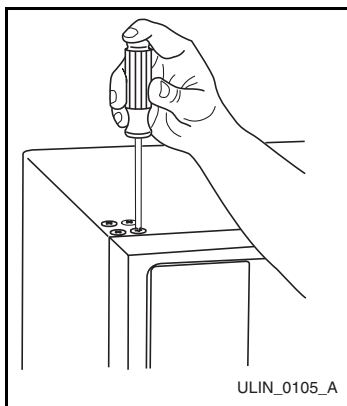

Figure 31
4. Remove four plastic plugs **(Figure 31)** in hinge holes, top of cabinet, opposite side. Be careful not to scratch cabinet.